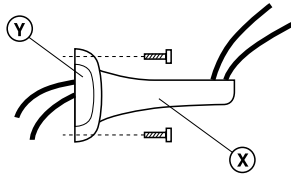

Fig. 1
1. Route the cables inside the bracket (X); eventually removing one of the side parts (Y) (Fig. 1).
2. Fasten in the requested position the bracket (X) using diameter 8mm screws with suitable rawbolts (Fig. 1).